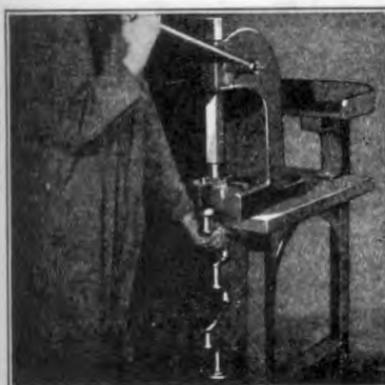
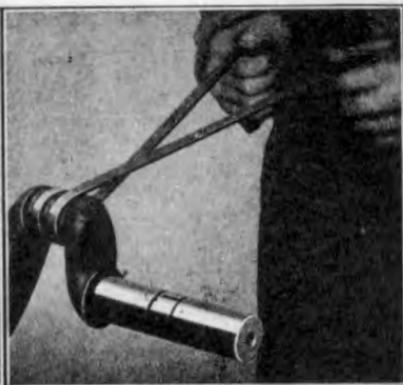

Fig. 160
Fig. 161
**241** Before installing crankshaft the shaft and small time gear should be carefully checked and inspected. If teeth are badly worn or chipped a new gear should be installed. The old gear can be removed by pressing it off of crankshaft with an arbor press as shown in Fig. 160. Examine shaft for cracks and scores; if cracked or badly scored, a new shaft should be installed. Burnt babbitt or light scores can be removed from bearings by oiling a strip of fine sandpaper and wrapping it around the bearing, and rotating the sandpaper back and forth with a narrow strap as shown in Fig. 161.